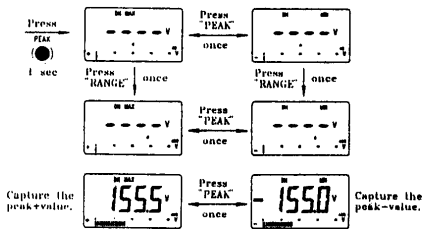

Figure 16. 1 ms Peak Hold Display.
- 3) The display shows "DH MAX" to indicate the PEAK+ and shows "DH MIN" to indicate the PEAK-. See Figure 16. If the reading is "OL", then you can push RANGE button momentarily to change measuring range and re-start the PEAK+ or PEAK- measurement after setting the peak mode.